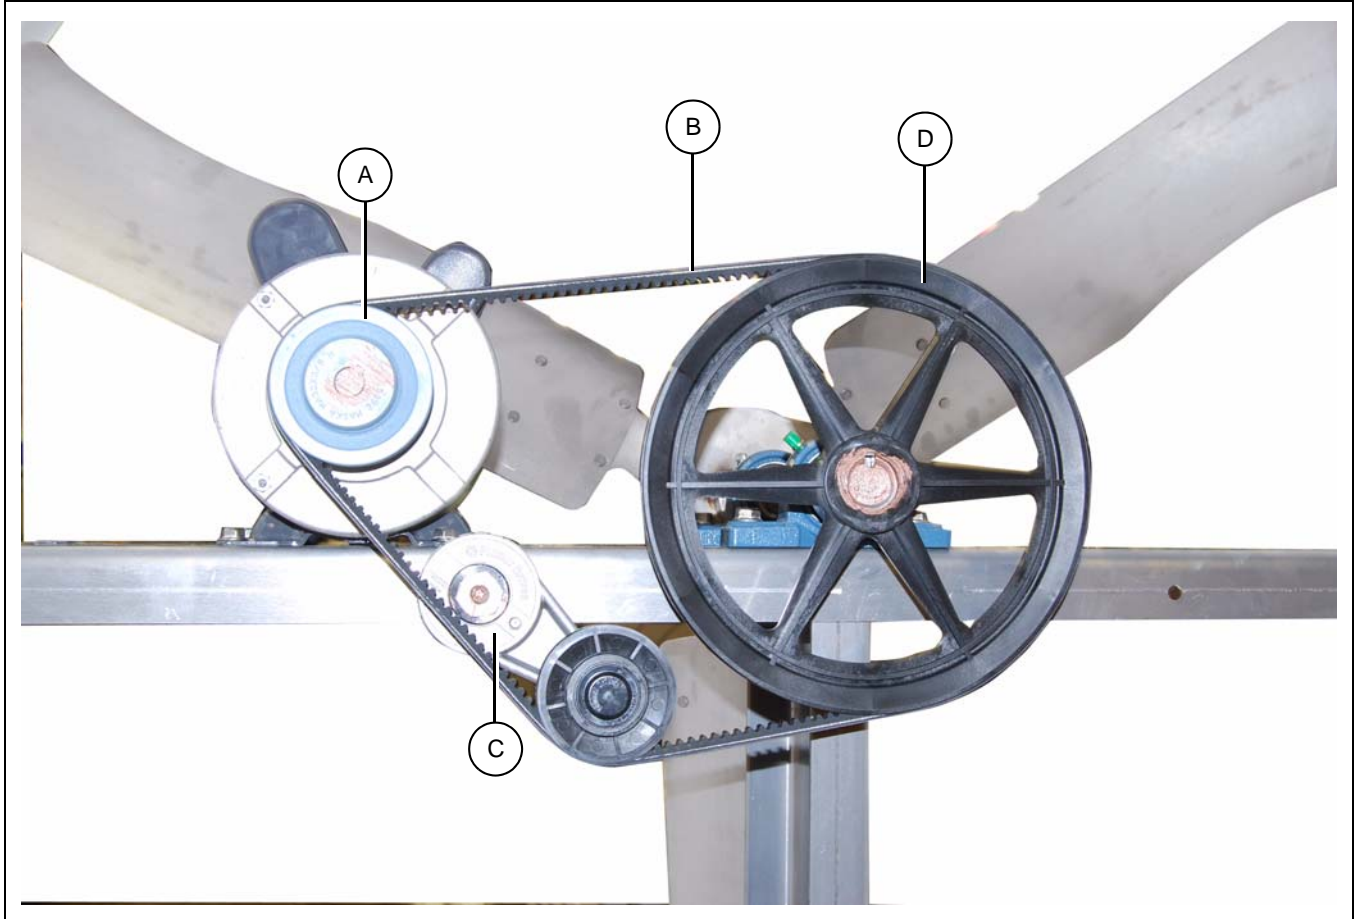

Figure 8U
1. Wrap the belt (B) around the drive pulley (A).
2. Keep tension on the belt (B) and continue to wrap the belt around tensioner arm (C) and rotate the belt onto the driven pulley (D). (*See Figure 8U.*)